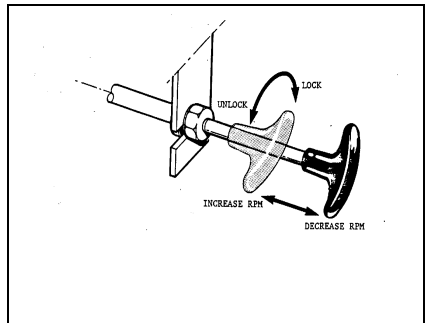

Fig 6-2-9 Remote Hand Throttle Control
- (1) unlocking the remote hand throttle control (Fig 6-2-9) by turning it counterclockwise,
- (2) pushing the handle in slowly to increase the speed to the proper rpm as seen on the tachometer, and
- (3) locking the handle by turning it clockwise;